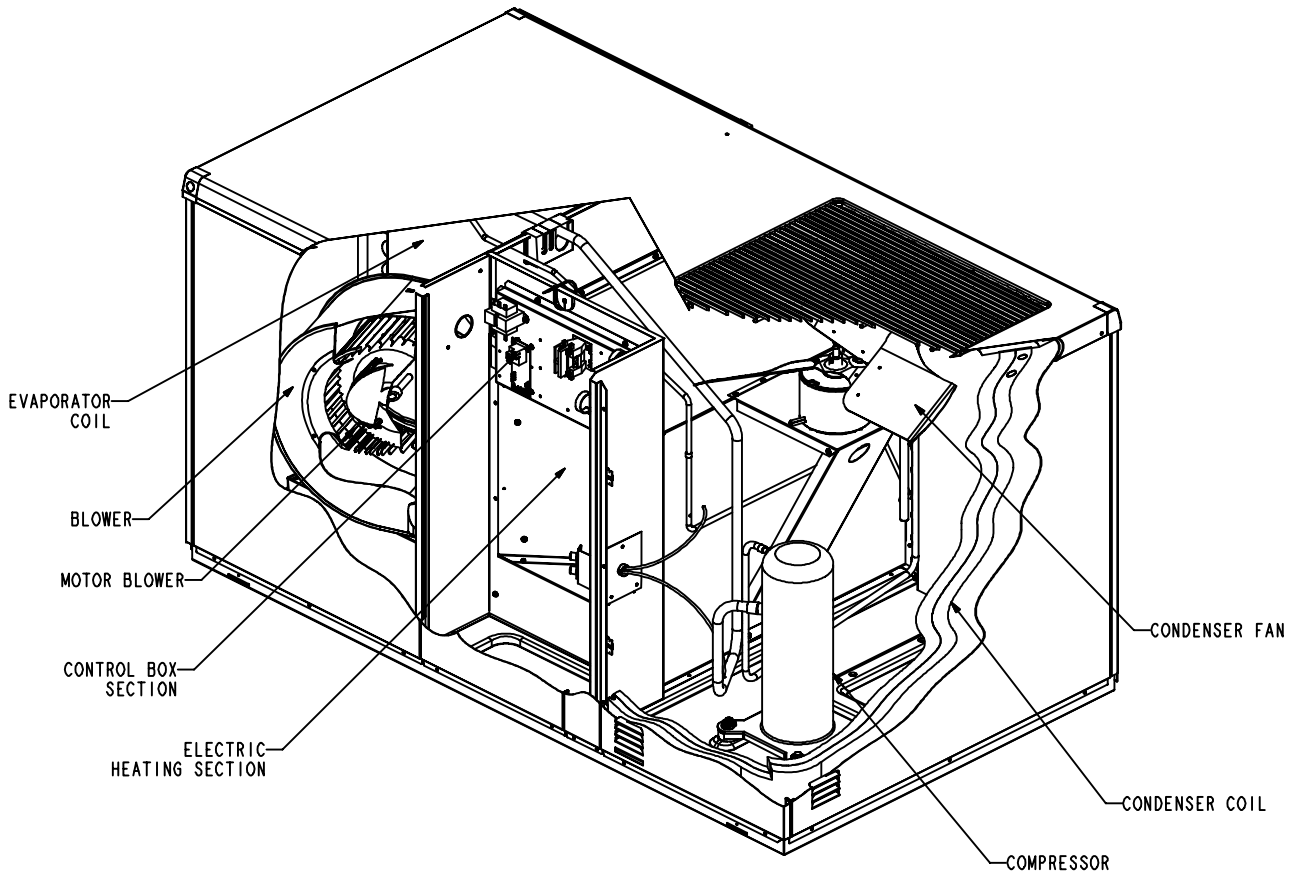
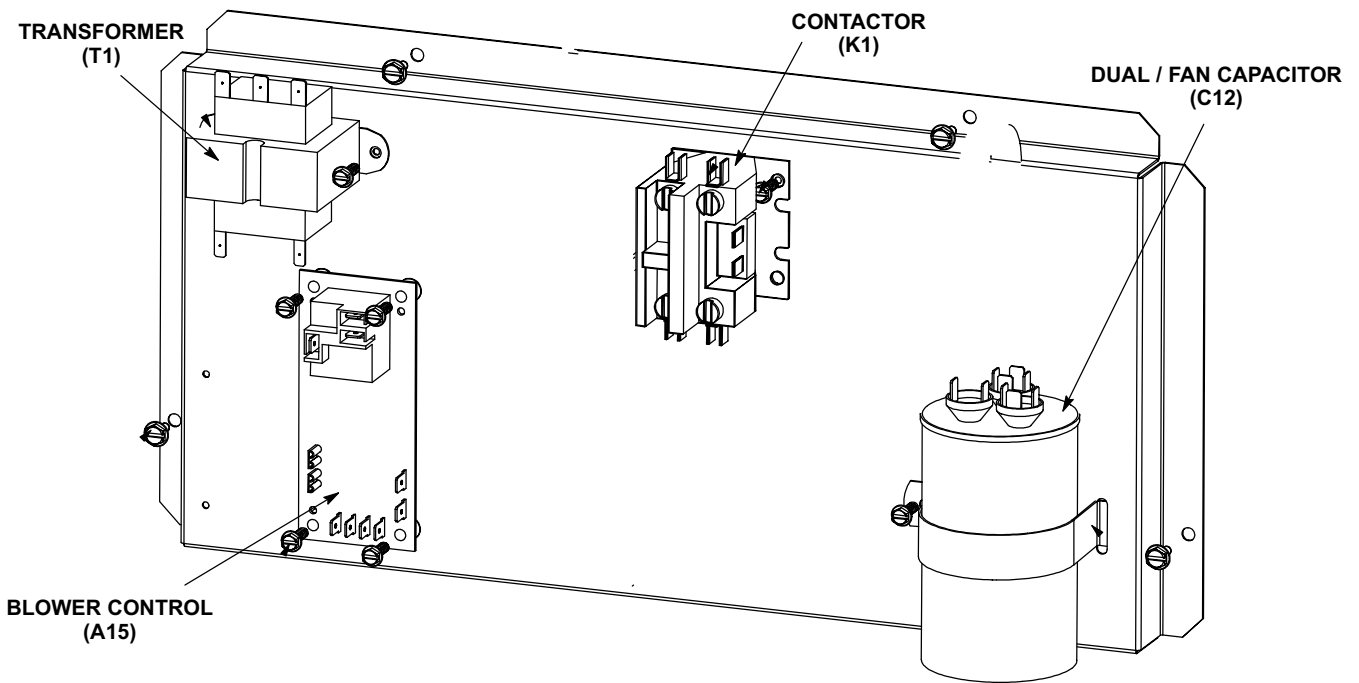

FIGURE 1
FIGURE 2
13CHA(X) components are shown in figure 1. Control box components are shown in figure 2.